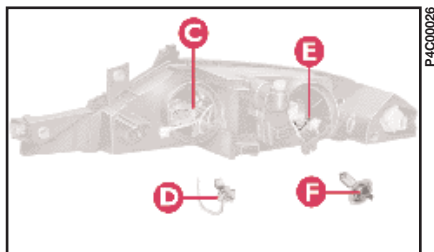

fig. 11
2) Release the clips **C-E** (fig. 11) and remove the burnt-out bulb **D** (mainbeam headlight of type H3 with printed wire already attached) or **F** (dippedbeam headlight, type H7).